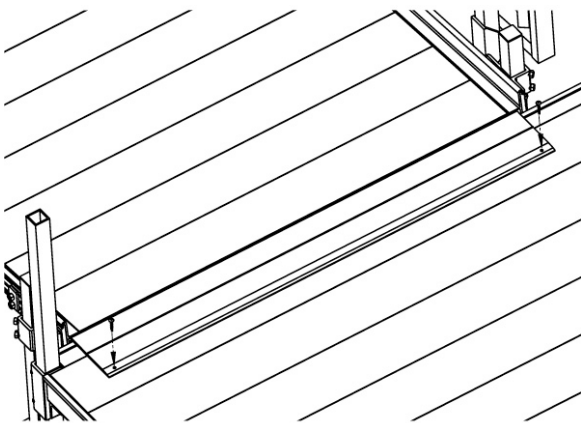

FIG. 42
- 9.1 Once all handrails and components have been positioned and all fasteners tightened, screw transition plates to platforms using two 1/4" x 1" long self drilling square drive screws (FIG. 42).